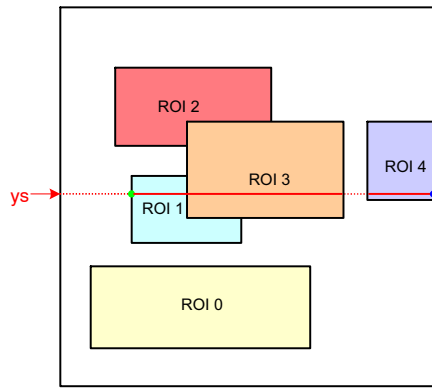

Figure 28. Scanning the Image Array with Five Windows
Figure 28 illustrates a practical example of a configuration with five windows. The current position of the read pointer ( $ys$ ) is indicated by a red line crossing the image array. For this position of the read pointer, three windows need to be read out. The initial start position for the x-kernel pointer is the x-start configuration of ROI1. Kernels are scanned up to the ROI3 x-end position. From there, the x-pointer jumps to the ROI3 x-end position, which is ROI4 in this illustration. When reaching ROI4's x-end position, the read pointer is incremented to the next line and  $xs$  is reinitialized to the starting position of ROI1.
- The read pointer is not necessarily incremented by one, but depending on the configuration, it can jump in y-direction. In Figure 28, this is the case when reaching the end of ROI0 where the read pointer jumps to the y-start position of ROI1